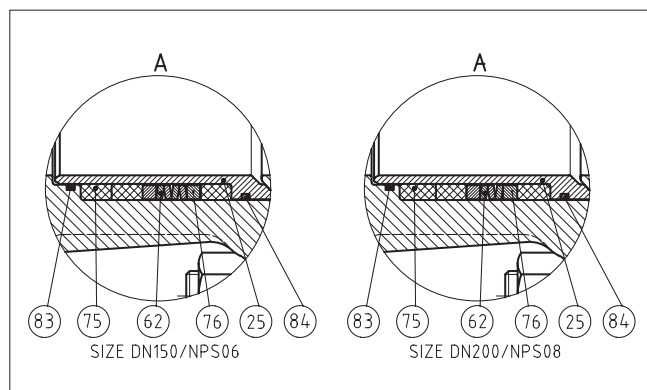

Fig. 10 B/A seat (see section 10. Assembly drawing).
- Locked seat:** Place the back seal (63) in the body (1); see Figure 10. Place the seat (7) in the body (1). Lock the seat (7) with a special tool supplied with separate instructions.
- Place the shaft partly inside the body from above and place the thrust bearings (70) on the shaft from inside the body. Place the spline driver (4) on the shaft spline and lock it with a pin (50).
- Put the ball (3) in its position so that the spline driver is in the ball slot.
- Screw down the studs (14). Place the thrust ring (67), the packing (69), the gland follower (9) and the retaining plates (42) in their position. Place the nuts (18) on the studs (14) and screw down them gently. Make sure that the shaft and the ball move smoothly.
- Solids Proof seat:** Place the O-ring (84), the back seals (75), support rings (76) and disc springs (62) on the seat (25); see Figure 10. Place the O-ring (83) and then the seat in the body cap (2).
- Place the body gasket (65) in the body groove. Tighten the studs (12) into the body (1).
- Carefully place the body cap (2) on the body. Make sure that the marks made during dismantling are aligned.
- Tighten the body nuts (16). For the best results, press the valve parts against each other. If this is not possible, make sure that you tighten the nuts evenly. The torque is shown in Table 2.